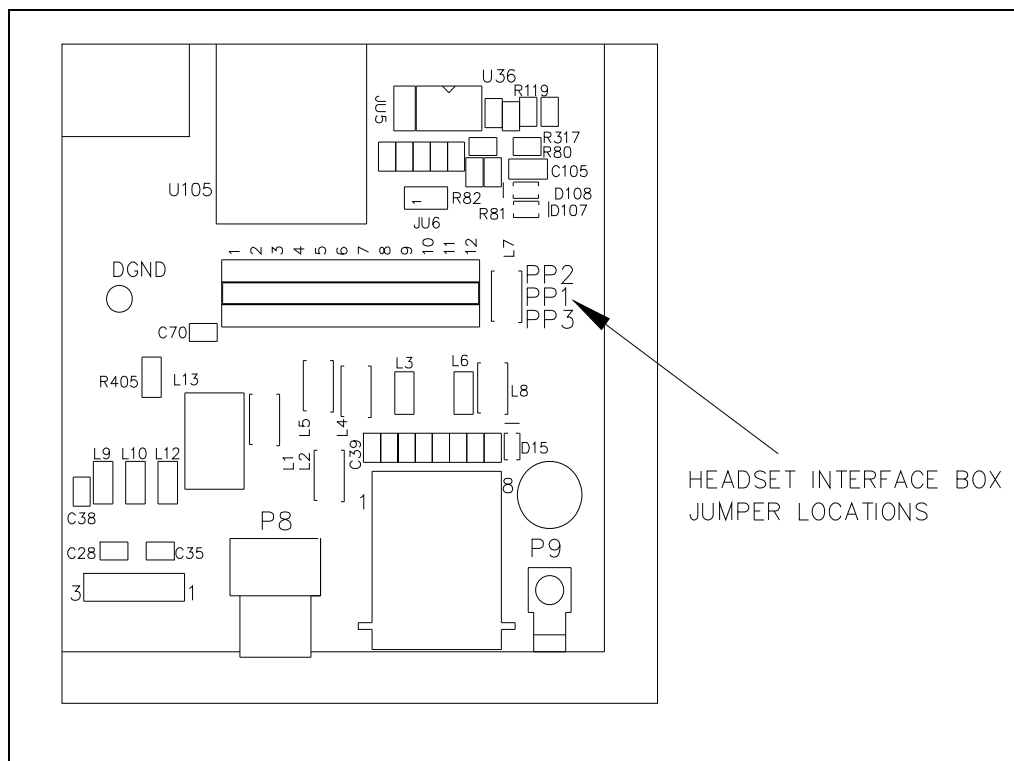

Figure 4. Main Board Microphone Jumper Positions
The rear panel connector (MIC) is normally provided to support the external gooseneck style microphone, Model XGM003A or XDM003A Desktop Microphone. For higher level microphones requiring an operating bias such as an Electret condenser microphone, install jumper JU6 to provide the operating bias and jumper JU5 to reduce the gain of the microphone pre-amp. Refer to Figure 4 below for the board position of JU5 and JU6. The default for these jumpers is OUT.
The interface box allows the use of several headset accessories, such as the Startset II, Supra headband-style monaural headset, and Supra headband-style noise-canceling headset. The headset jack is assembled for mounting on the right-hand side of the console. Its use requires proper jumper installation. (See Figure 4 for jumper locations.) If left-hand mounting is required, reverse the assembly. The headset plugs into the modular-style headset jack (labeled HEADSET/HANDSET) on the rear panel.
2. Referring to Figure 4 for the programming jumpers on the main board, locate the 3 rows of jumpers marked PP2, PP1 (center) and PP3.
1. Refer to Figure 4 to locate the 2-position jumpers marked PP2, PP1 (center) and PP3.